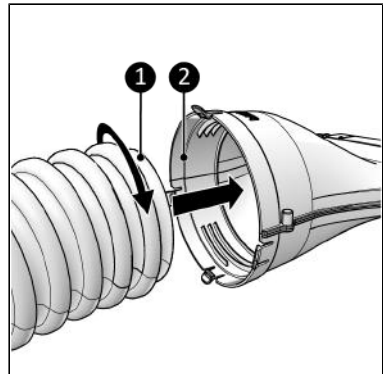

Figure 104.
- With a rotating system, for a hose without a collar (Figure 104, pos. 1).
- Insert the air conditioning hose (Figure 104, pos. 1) into the main body (Figure 104, pos. 2) and tighten.